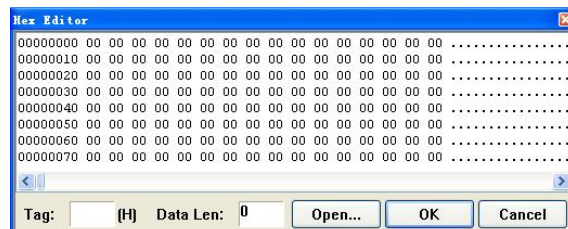

figure 3-47
- 3、click“Add Descriptor”, the interface is shown as figure3-47, input Tag、Data Len in the figure.